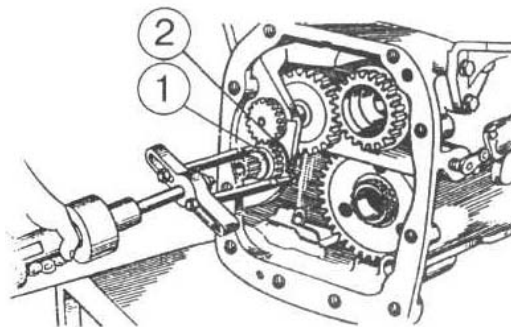

Figure 4.35
- b) press out gear 1 (Figure 4.35) together with axle, bearing and locking ring;